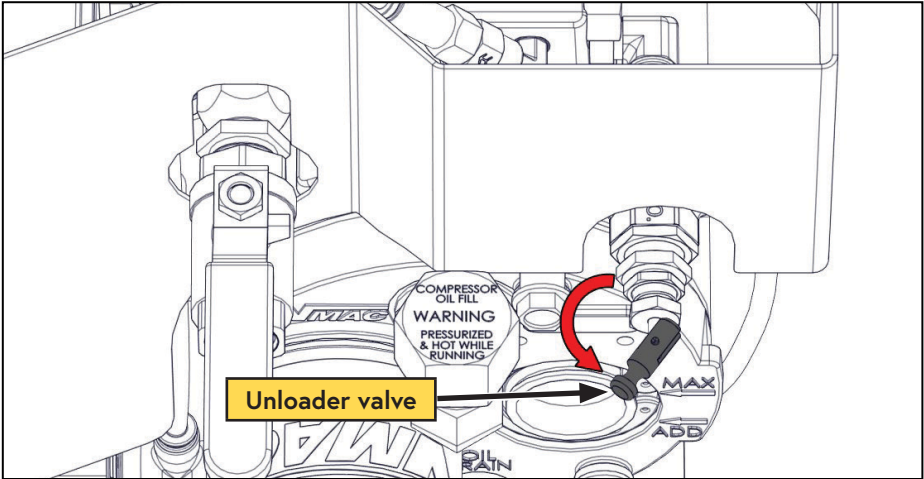

Figure 16 — Unloader valve
- 5) Actuate the unloader valve by pulling out the handle (Figure 16).